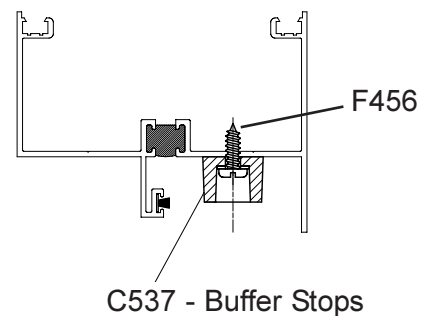

Fig. 17
- Fit the 2 buffer stops (C537) into the outer channel of the head using No.10 x 5/8" Pozi PH screw (F456). (See Fig 17).